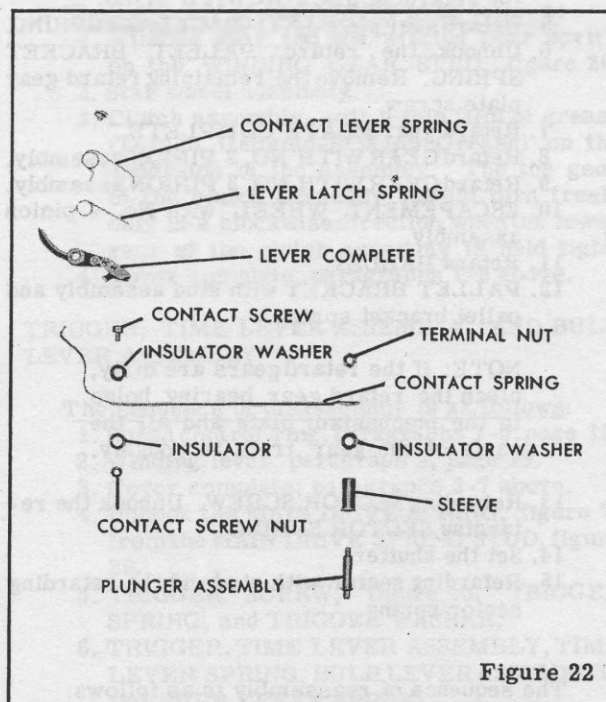

Figure 22
11. Shutters of the flash receptacle type are disassembled as follows: Using Tool No. 503J, remove the TERMINAL NUT, figure 22, on the end of the PLUNGER ASSEMBLY. Remove the case INSULATOR WASHER, the plunger assembly, and the terminal body insulating SLEEVE. On the contact end of the CONTACT SPRING, remove the CONTACT SCREW NUT, using Tool No. 503L. Remove the CONTACT SCREW, the contact spring, the case INSULATOR WASHER, and the case INSULATOR. Then remove the contact LEVER COMPLETE.
8. If the shutter is of the flash receptacle plunger type, see figure 22. Fit the contact lever spring and the contact lever as described in paragraphs 1 and 2 above. Insert the threaded end of the plunger assembly in the collar end of the terminal body insulating sleeve. Then insert the assembled parts in